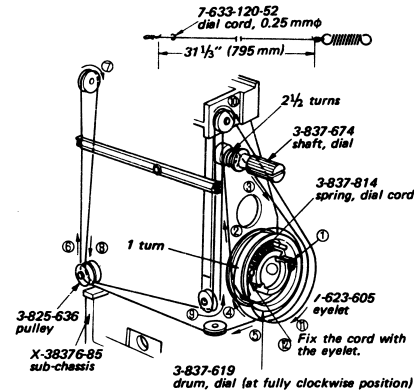

Fig. 2-13
2. Cut the dial cord by the specified length as shown in Fig. 2-13.
1. Fix the dial cord to the protrusion (step ①) and string the cord in numerical order as shown in Fig. 2-13.